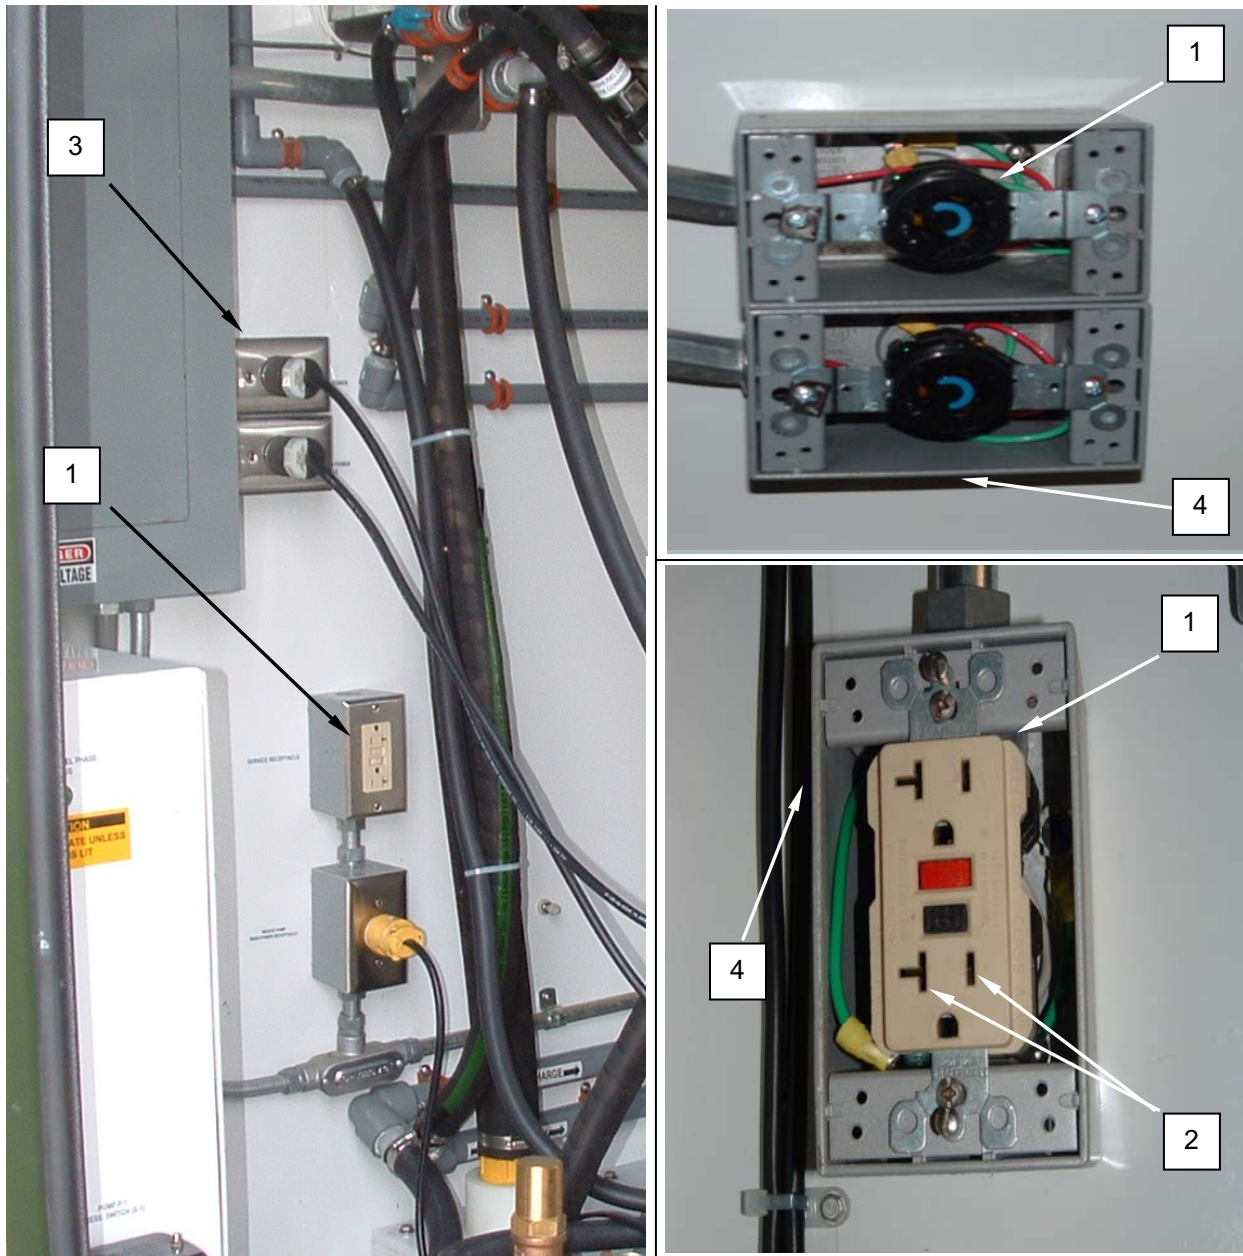

Figure 1. Test a Receptacle.
2. If testing the washer receptacles, use a voltmeter set to read at least 250 VAC to check for 208 VAC power at the receptacle inlets (**Figure 1, Item 2**). All other receptacles must be tested for 120 VAC.
3. If there is power at the receptacle (**Figure 1, Item 1**), no further test is required. If there is no power at the receptacle, switch the circuit breaker to off and tag out.
4. Remove screws retaining receptacle cover (**Figure 1, Item 3**) and remove cover.
5. Remove screws retaining receptacle (**Figure 1, Item 1**) to box (**Figure 1, Item 4**) and remove receptacle.
6. Tag and disconnect wiring from receptacle (**Figure 1, Item 1**).
7. Use an ohmmeter to test for zero resistance between receptacle inlet (**Figure 1, Item 2**) and corresponding terminal.
8. Use an ohmmeter to test for infinite resistance between each power inlet (**Figure 1, Item 2**).
9. Use an ohmmeter to test for infinite resistance between each power inlet (**Figure 1, Item 2**) and ground.
10. Connect wiring to receptacle (**Figure 1, Item 1**) as tagged.
11. Install receptacle (**Figure 1, Item 1**) into box (**Figure 1, Item 4**) and retain with screws.
12. Install receptacle cover (**Figure 1, Item 3**) and retain with screws.